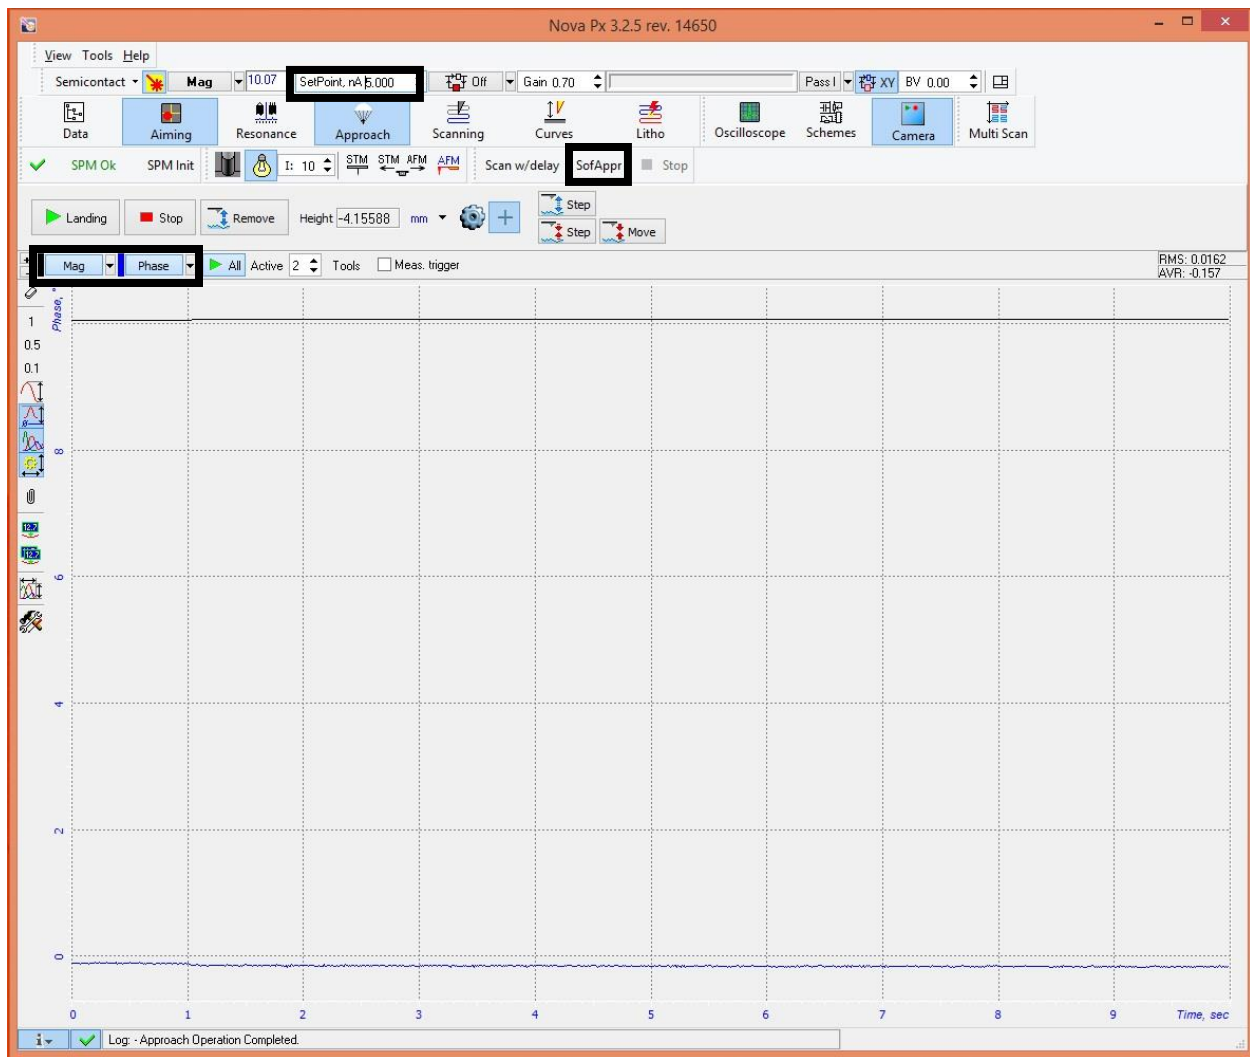

Figure 12: Approach main menu
- The soft approach script doesn’t just land the probe on the sample but it also establishes a set point. When the probe gets close to landing the set point values should fluctuate (Figure 12).